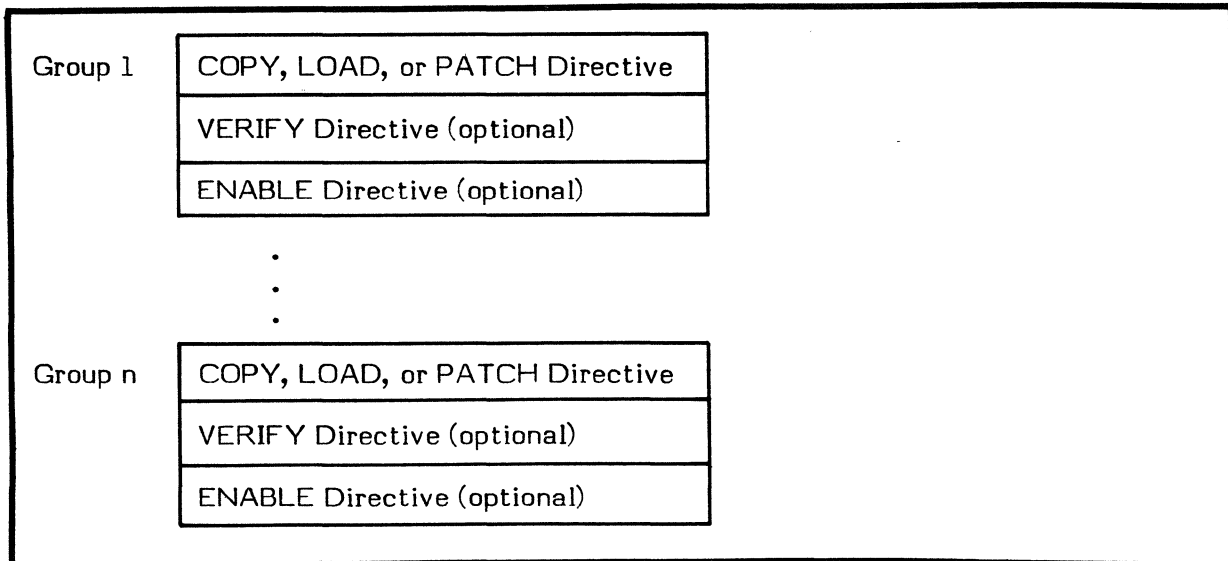

Figure 12-1. M.ACS Format
M.ACS consists of one or more groups of directives, each group for a particular processor. There can be more than one group of directives for any processor. The last directive in each group must be followed by a semicolon. See Figure 12-1 for the format of M.ACS.